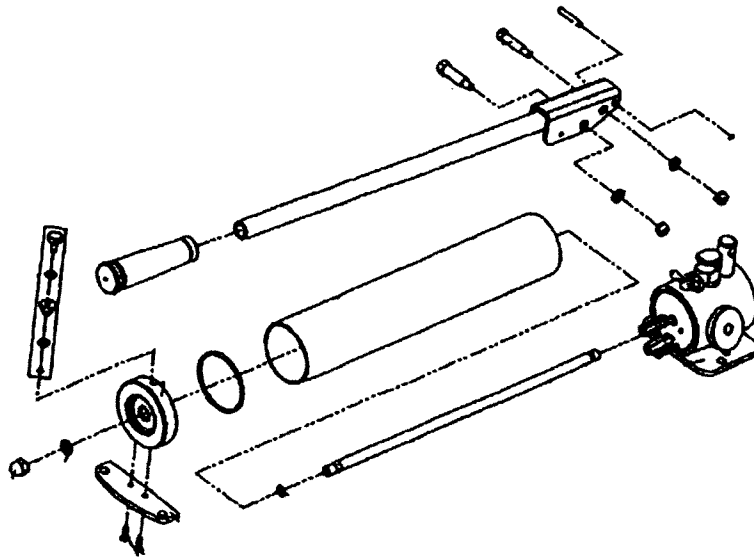

Figure 1
Figure 1 shows an exploded view of a hydraulic system hand pump. In the space provided:
- (b) name **four** visible parts on Figure 1 after assembly. (2 marks)